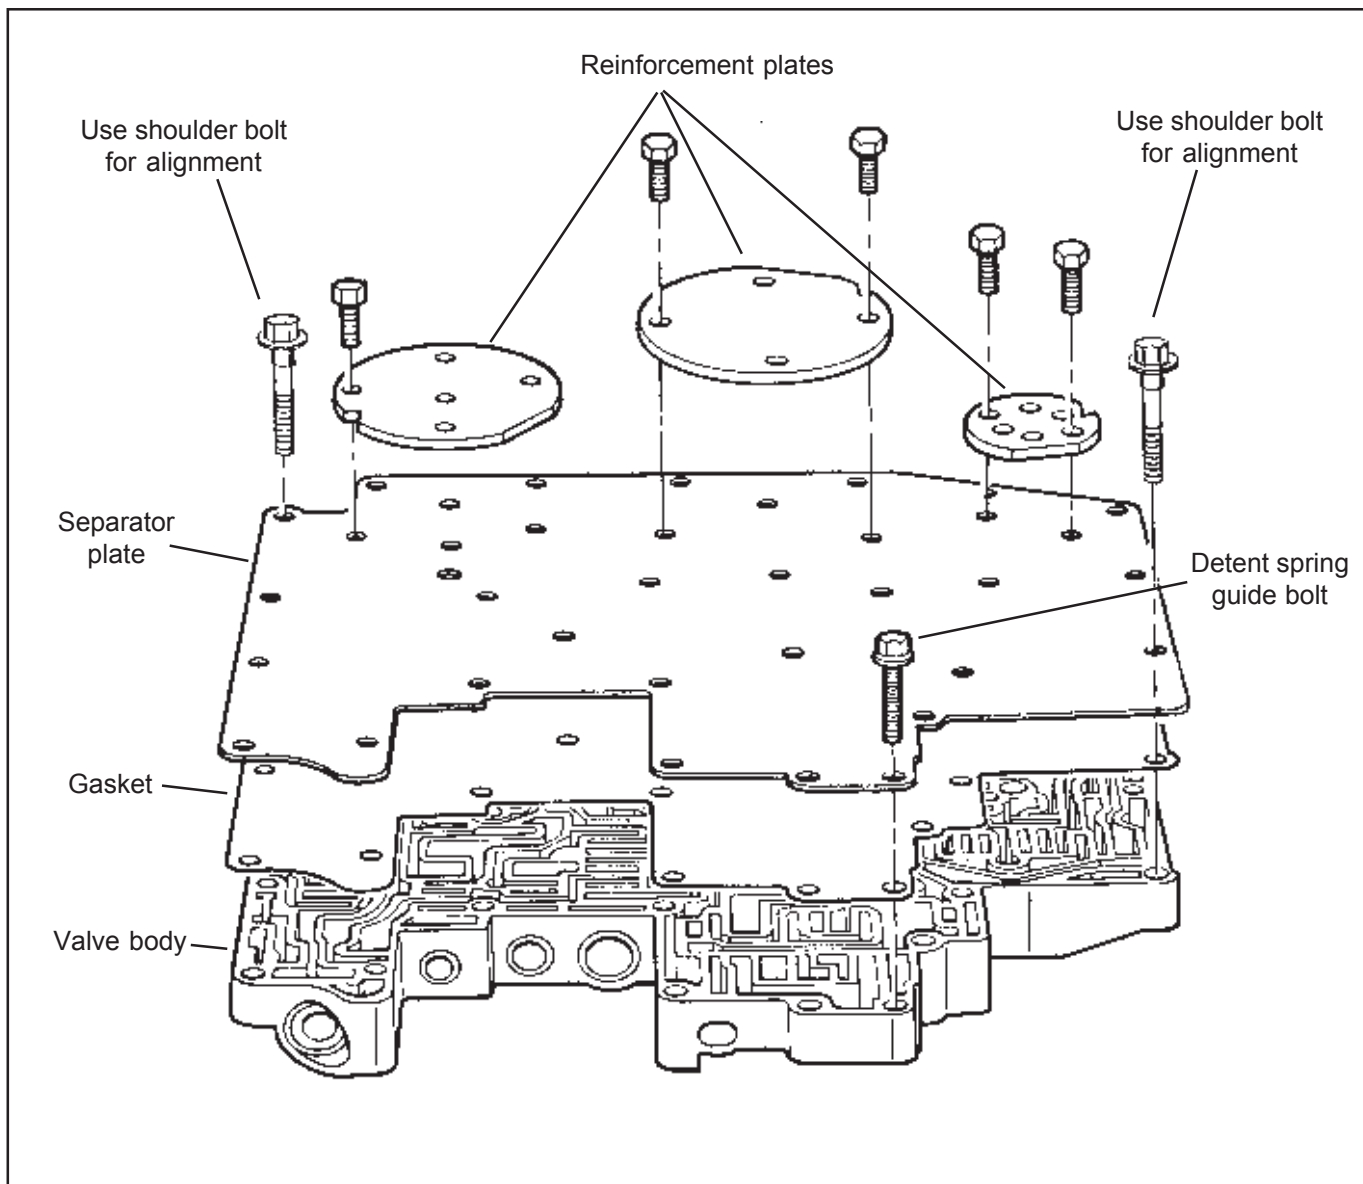
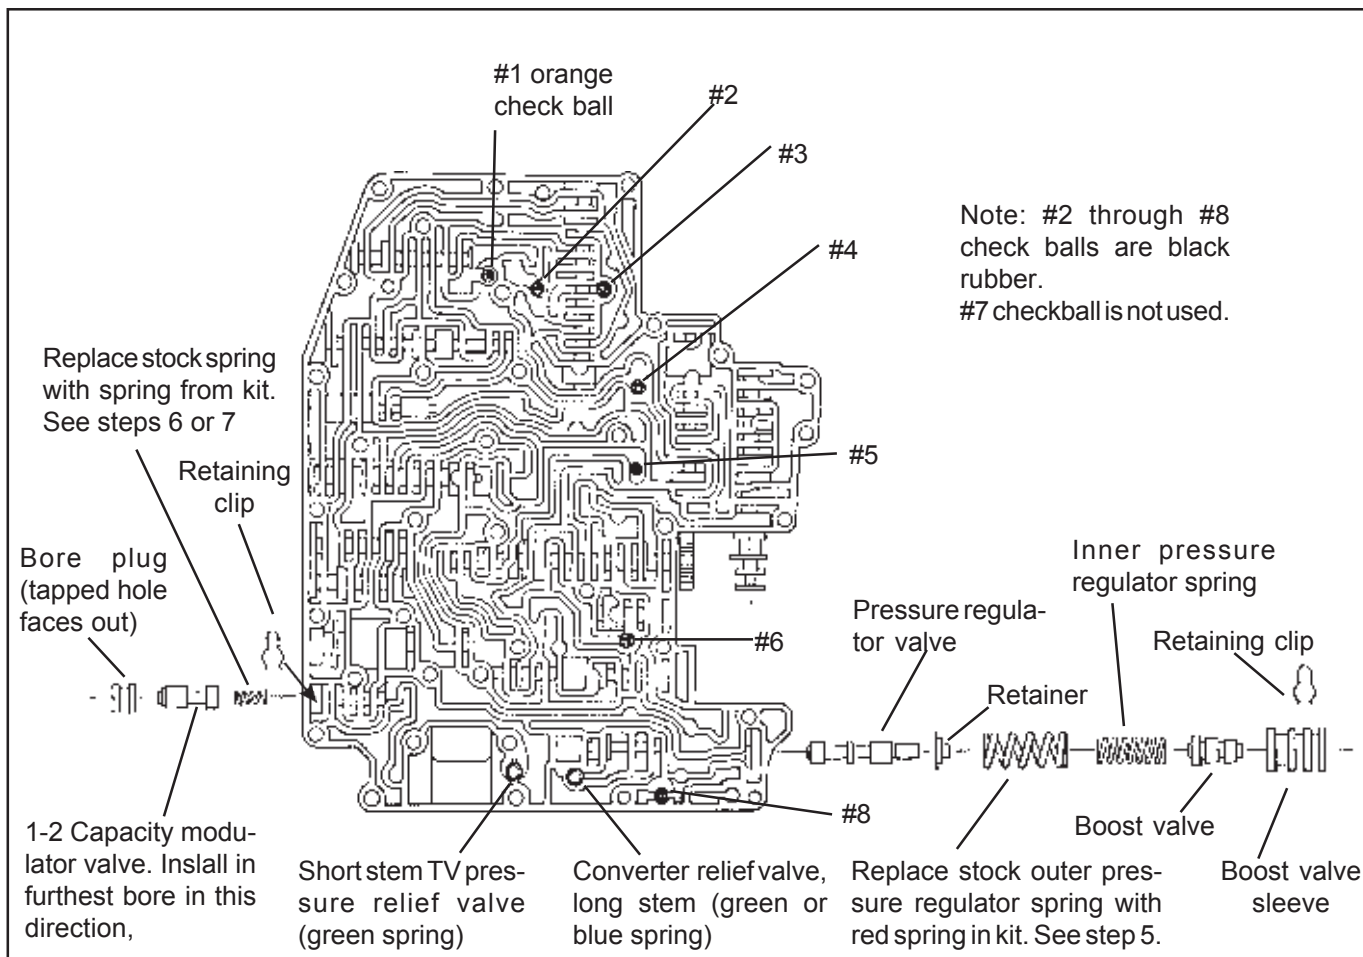

Figure 3
Figure 4
STEP 4. Remove 12 bolts holding separator plate to valve body (See Fig 3). Remove (3) reinforcement plates and separator plate, (1) large (orange) and (6) small (black) check balls, and (2) relief valves with springs (See Fig. 4). NOTE: Early 1980 valve bodies may have (7) black check balls. Carefully remove any remaining gasket material from reinforcement plates and valve body surfaces. Make sure none of the gasket debris remains in the valve body channels to contaminate the valves. Rinse off valve body with clean solvent to remove any dirt or grit.
STEP 5. Heavy Duty and Street; Pressure regulator. Remove the retaining clip at the end of the pressure regulator bore (See Fig. 4) Use a screwdriver to hold the pressure regulator assembly in while removing the retaining clip. If the sleeves stick in the bore, lightly punch the sleeve with a small rod and a mallet allowing it to snap back out of the bore. Remove Sleeve with Boost Valve and the outermost pressure regulator spring. Replace the stock outer pressure regulator spring with the **RED** spring supplied in the kit.
STEP 6. Heavy Duty Only; 1-2 Capacity Modulator. Remove the spring clip at the end of the 1-2 Capacity Modulator bore (See Fig. 4). Remove the bore plug, 1-2 Capacity Modulator valve and spring from bore. On later model valve bodies use the M4x40 (4mm metric screw supplied in kit) in tapped hole to assist removing bore plug. Early valve bodies do not have a hole in the bore plug so you will have to pry the plug out with a small screw driver. Replace the stock spring with the **YELLOW** spring supplied in kit. Reassemble spring, valve and bore plug (tapped hole facing out) and install spring clip.
STEP 7. Street Only; 1-2 Capacity Modulator. Remove the spring clip at the end of the 1-2 Capacity Modulator bore (See Fig. 4). Remove the bore plug, 1-2 Capacity Modulator valve and spring from bore. On later model valve bodies screw the M4x10
STEP 11. Check ball placement (See Fig. 4) Place check balls in the valve body in the positions shown. Use a
STEP 12. Reinstall original converter and TV pressure relief springs and valves (See Fig. 4). Pay close attention to the spring color and relief valve stem length. The long stem converter relief valve can have either a green or
STEP 14. Position separator plate gasket then separator plate on valve body. Align gasket and separator plate holes with those in valve body. Insert (2) long (1.56") valve body **shoulder** bolts through separator plate and valve body as illustrated in **Figure 3**. The **shoulder** bolts are required to maintain gasket and plate alignment during assembly. The shoulder bolts must be installed in the holes indicated for proper alignment. Install (3) reinforcing plates with (11) short bolts tightening the bolts finger tight. Install (1) M6x30mm (1.16") detent spring guide bolt. (**See Fig. 3**)